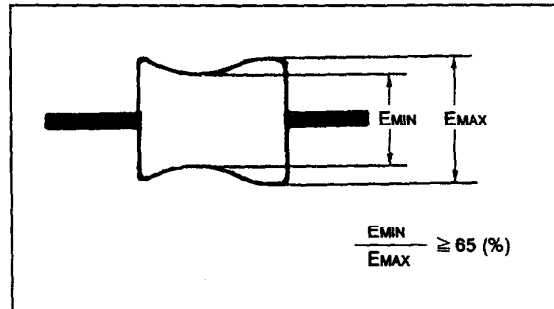

Fig. 4-13.
- 2) Then, confirm that the minimum amplitude value (EMIN) is 65% of the maximum value (EMAX) or larger (See Fig. 4-13).